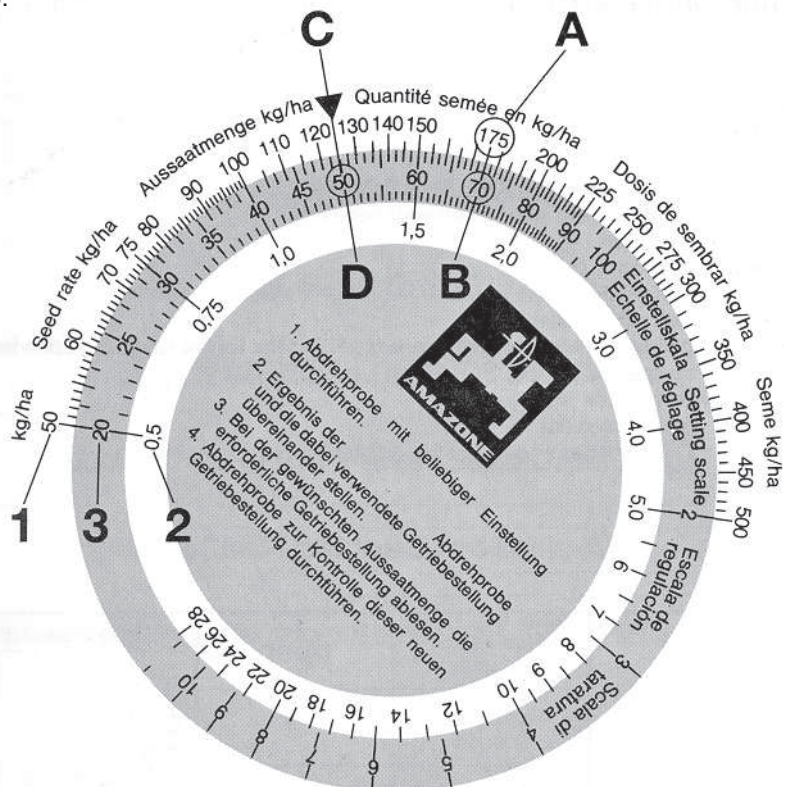

Fig 9
Usually the first calibration test yields a different seed rate. However with the value determined from the first test it is possible to determine the correct gearbox setting with the aid of the enclosed disc calculator ( Fig 9). The disc calculator consists of 3 scales. An outer white scale (1)
- 2 Turn the inner disc until the measured seed rate of 175kg/ha (A) is in line with the related actual gearbox setting of "70"(B) (Fig 9).
- 3 Read off from the disc rule the necessary gearbox setting for the required seed rate of 125kg/ha (C). In this example the correct setting is "50" (D) (Fig 9).